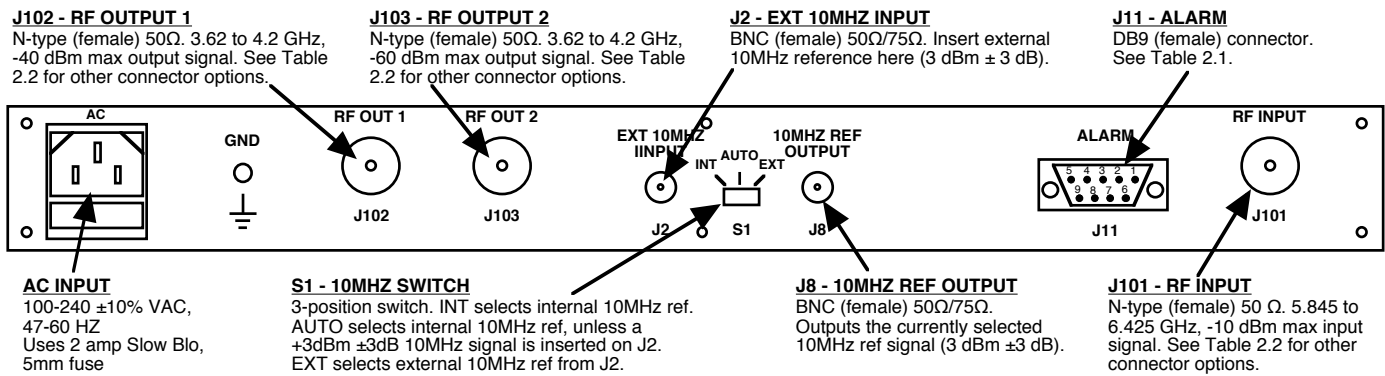

FIGURE 2.1 2116-6T4 Rear Panel I/O's
Figure 2.1 shows the input and output connectors on the rear panel.
1. Connect a -30 dBm to -10 dBm signal to RF INPUT (J101) (Figure 2.1).
5. Select either INT (for internal 10MHz ref), AUTO (for internal 10MHz ref UNLESS an external 10MHz, 3 dBm signal is connected to J2), or EXT (for external 10MHz, 3 dBm ref that is inserted at J2) using the rear panel 3-way switch, S1 (Figure 2.1).
7. Check that a 10MHz, 3 dBm \pm 3 dB signal is present at the 10MHZ REF OUTPUT (J8) (Figure 2.1).